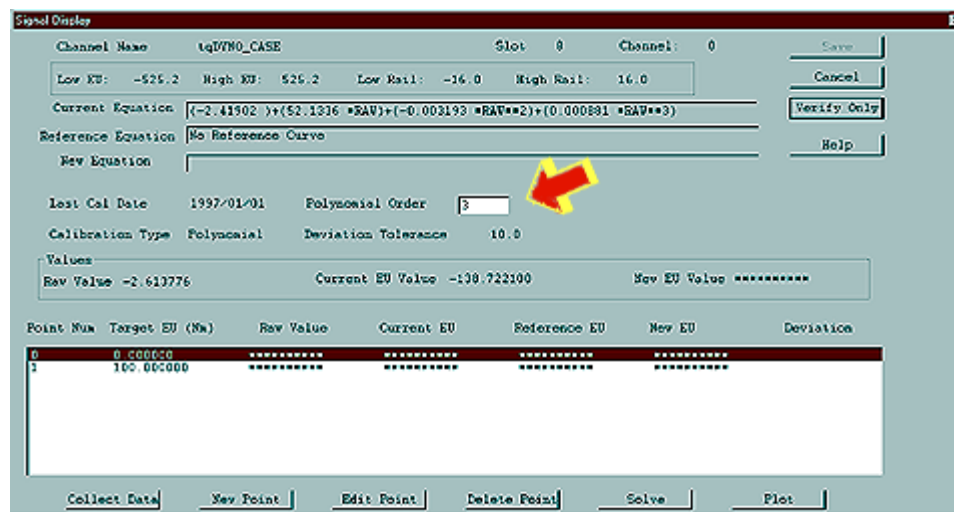

Figure 5
- 111 The “Signal Display” screen will appear. See Figure 5. Next to “Polynomial Order” select the field area by doubleclicking on it and type in ‘3’.